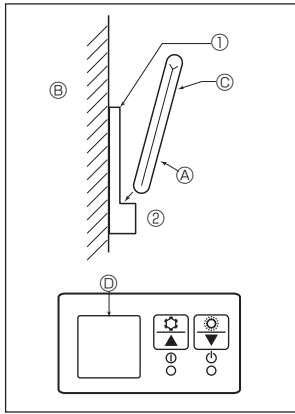
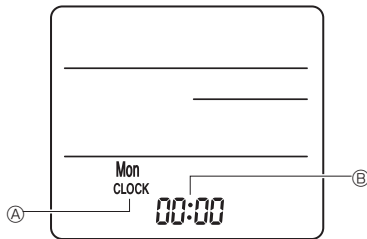

Fig. 6-7
Fig. 6-8
2) Installation method (Fig. 6-7)
① Attach the remote controller holder to the desired location using 2 tapping screws.
② Place the lower end of the controller into the holder.
③ Remote controller (B) Wall (C) Display panel (D) Receiver
3) Setting (Clock setting) (Fig. 6-8)
① Insert batteries or press the **CLOCK** button with something sharp.